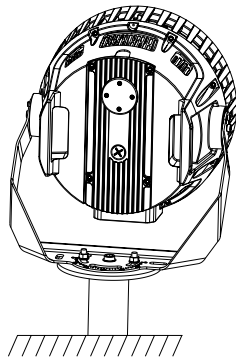

Figure 10
1. Fix the product on the disc holder and lock the screws, no need to over-tighten (Figure 10).